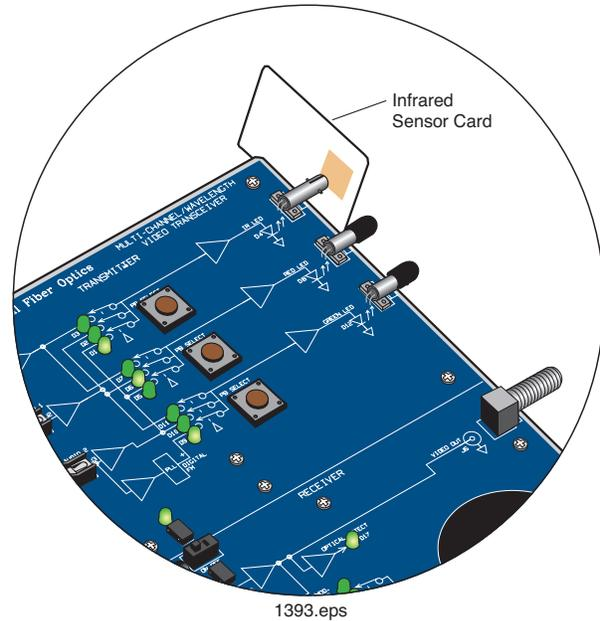

Figure 6. Correct location of the infrared sensing card to view IR Light.
- Place the pale orange phosphor square on the Infrared Sensor Card right up against the IR LED as shown in Figure 6. You should see a glowing area on the card corresponding to the infrared energy coming out of the IR LED. You may need to dim the room lights to see this. Change the distance between the LED receptacle and sensor card and note how the size of the glowing area changes. Turn the card around and place its back side against the IR LED receptacle and see if you can observe any glow this time.